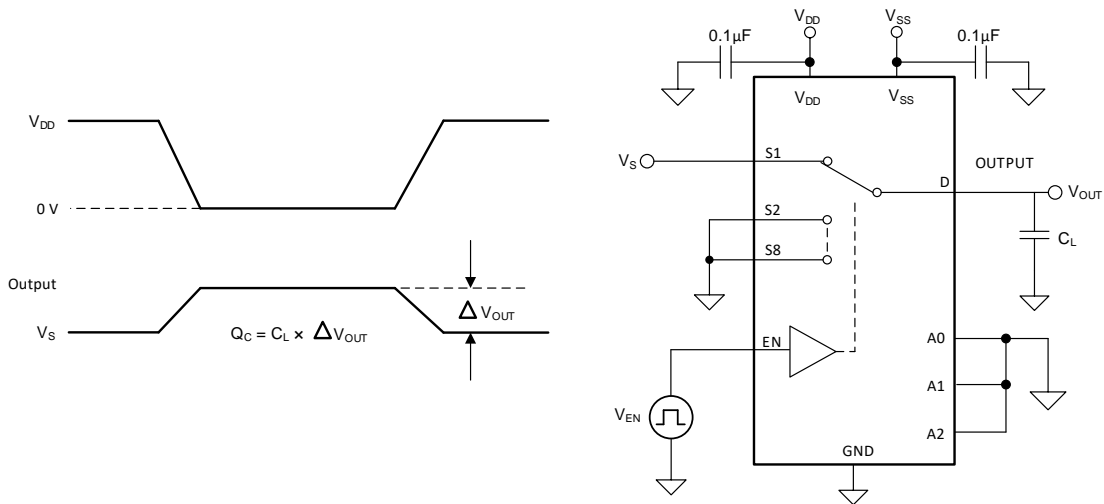

Figure 24. Charge-Injection Measurement Setup
The TMUX1108 has a transmission-gate topology. Any mismatch in capacitance between the NMOS and PMOS transistors results in a charge injected into the drain or source during the falling or rising edge of the gate signal. The amount of charge injected into the source or drain of the device is known as charge injection, and is denoted by the symbol  $Q_C$ . Figure 24 shows the setup used to measure charge injection from source (Sx) to drain (D).